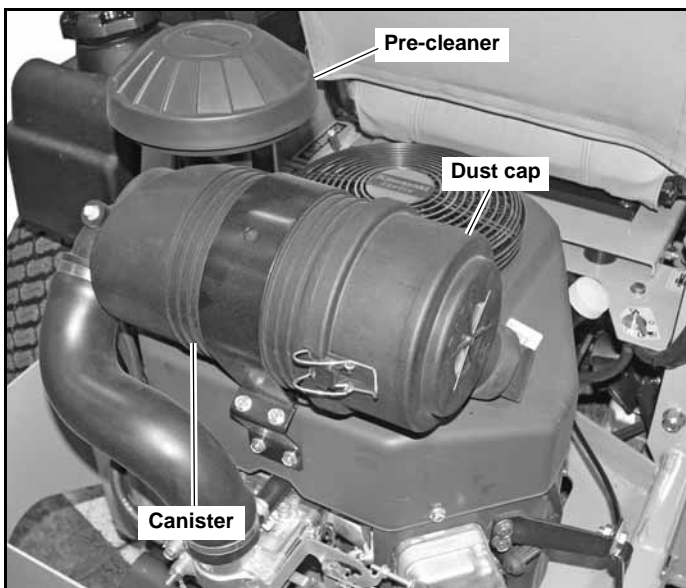

Figure 4-6
A specially designed dry filter is standard equipment on these mowers and supplies clean combustion air to the engine. Figure 4-6
3. Reinstall the dust cup. Make sure it seals all the way around the air cleaner body, then tighten the clamps. Figure 4-6